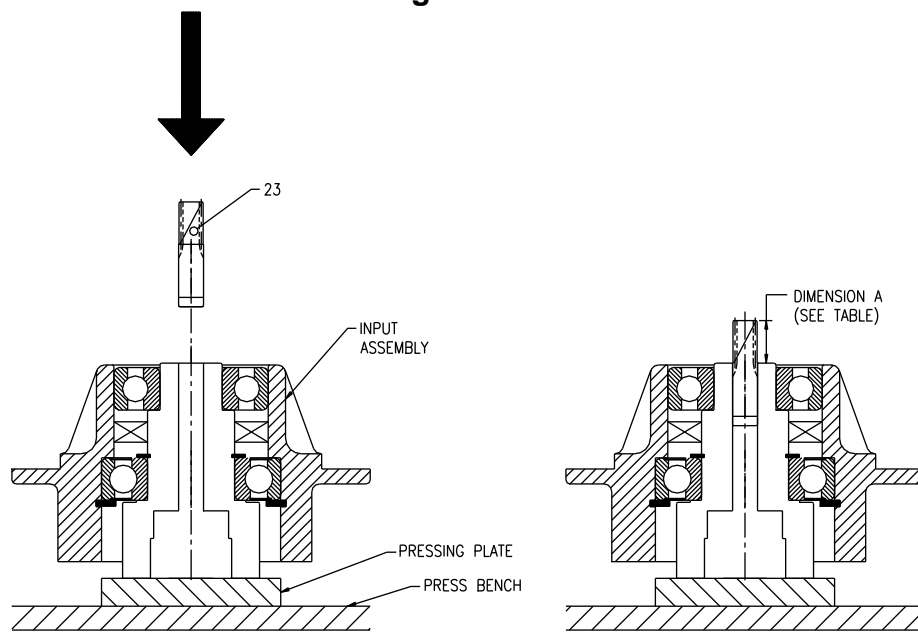

Figure 4
5. For pinions where the gear is smaller than the shank OD (Figure 4), press to Dimension A listed in the Table 1.